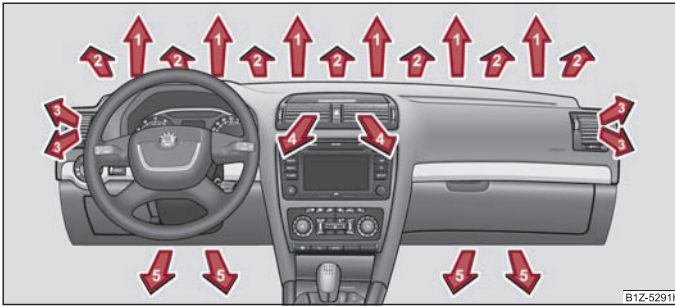
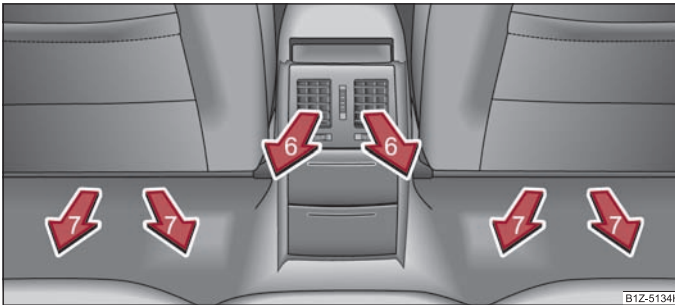

Fig. 104 Air vents at the front
Fig. 105 Air vents at the rear
The air outlet vents 3, 4 → fig. 104 and 6 → fig. 105 can be closed and opened individually.
- Air outlet vents 3 ⇒ page 91, fig. 104.
- We recommend that you leave the air outlet vents 4 ⇒ page 91, fig. 104 in the opened position. ■